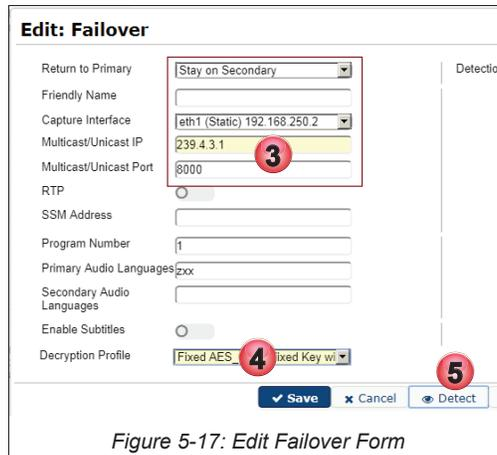

Figure 5-17: Edit Failover Form
3. Edit the Failover form settings according to your system requirements, Figure 5-17, and use Table 5.8a for guidance. By default the system assumes that the IP address and port as well as program number and language matches the primary feed.
Table 5.8a: Failover Form Settings (See Figure 5-17)